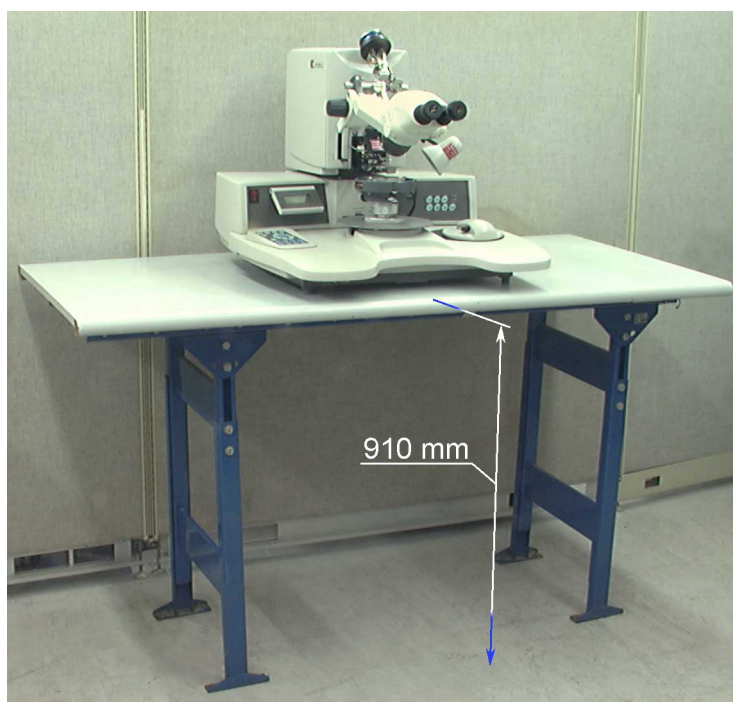

Figure 2-1: Stable Work Table for K&S 4500 Digital
- Stable work table, as shown in Figure 2-1.